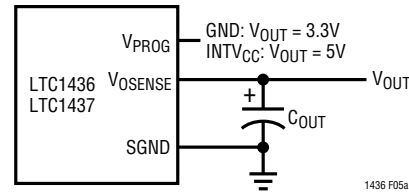
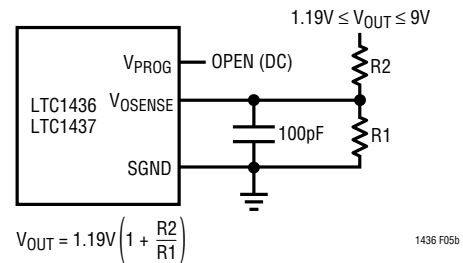

Figure 5a. LTC1436/LTC1437 Fixed Output Applications
Figure 5b. LTC1436/LTC1437 Adjustable Applications
The LTC1436/LTC1437 family also has remote output voltage sense capability. The top of an internal resistive divider is connected to V_{OSENSE}. For fixed 3.3V and 5V output voltage applications the V_{OSENSE} pin is connected to the output voltage as shown in Figure 5a. When using an external resistor divider, the V_{PROG} pin is left open (DC) and the V_{OSENSE} pin is connected to the feedback resistors as shown in Figure 5b.